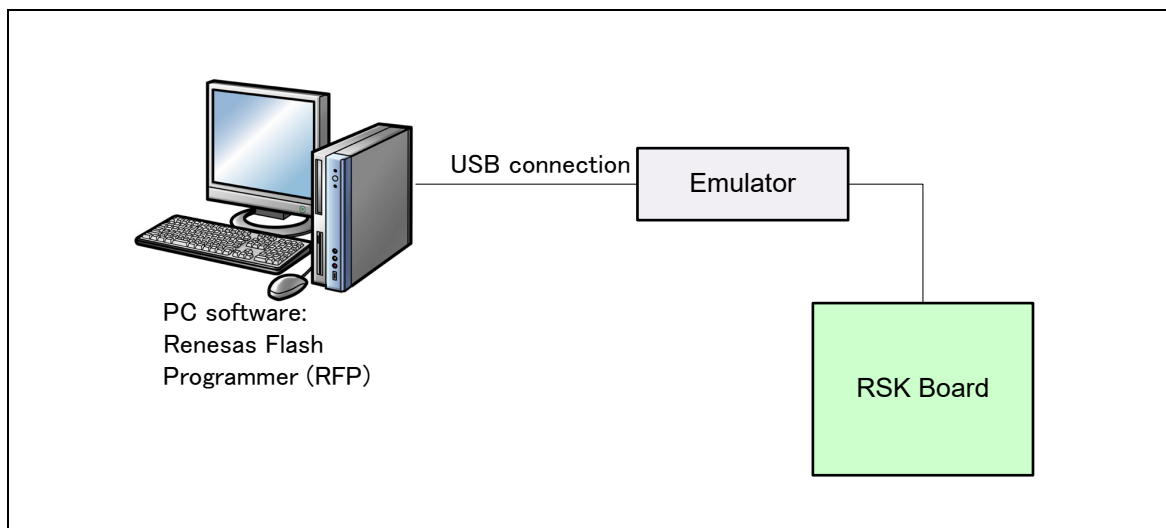

Figure 4-2 Connection Diagram Using an Emulator
- This program can be written to the user boot area when using an emulator (as in **Figure 4-2**).